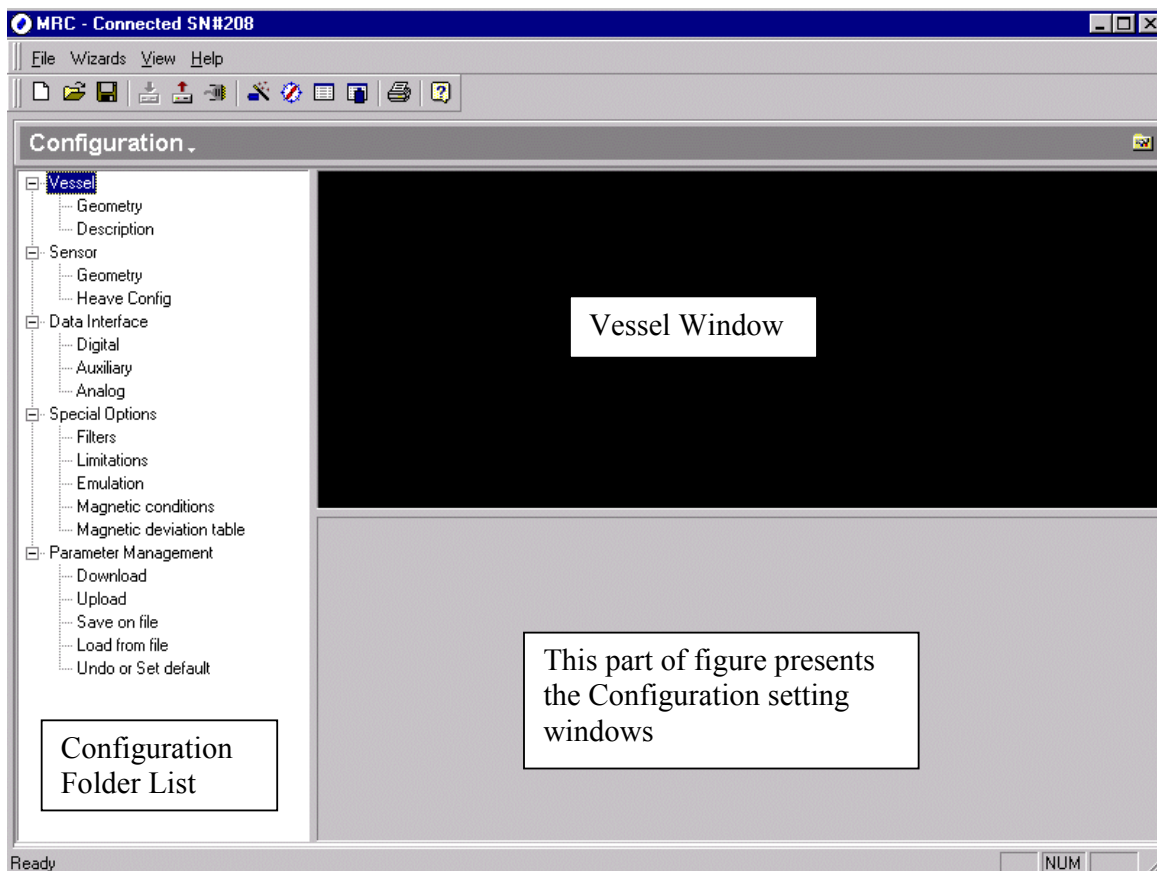

Figure 23 MRU configuration Window
2. **Offline** - System opens for preparation of the configuration parameters in the local PC, see Figure 23.
Alternatively, **Go Offline** and prepare parameter settings in the local PC, see Figure 23, or **Exit** to close the application.
The main window MRC – Configuration window is shown, see Figure 23, when uploading of MRU parameters are finished.